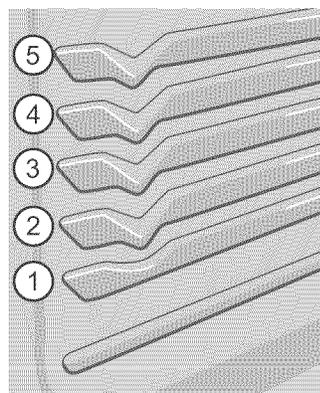

Figure 15: Broil rack positions
2. Position bakeware in oven to the preferred rack position. (Figure 15).